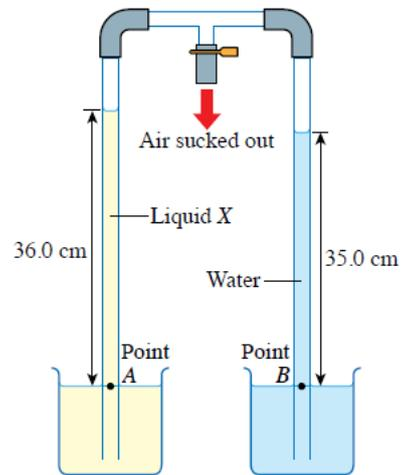

Figure 1
2. Figure 1 shows the apparatus for comparing the densities of two types of liquid after some air is sucked out of the apparatus.